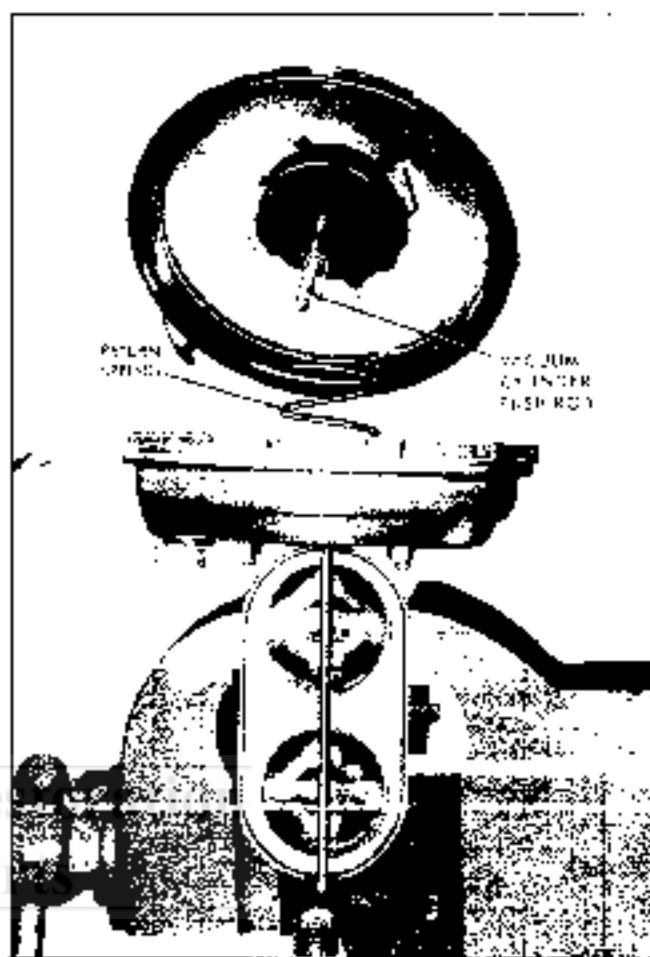

Fig. 5A-5 Removing Rear Housing
11. Press air valve from power piston using rod not exceeding 1/2" diameter. Removal of valve releases floating control valve, floating valve retainer, push rod limiter washer and air filters (Fig. 5A-13).